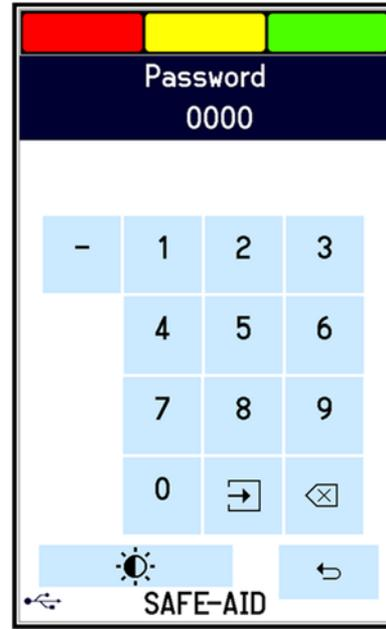

Figure 15
1. To access the wind speed menu from the operating screen, press the block where the current wind speed is displayed, a **Password** screen will be displayed (figure 15).